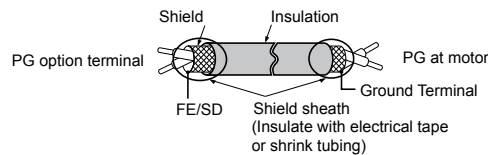
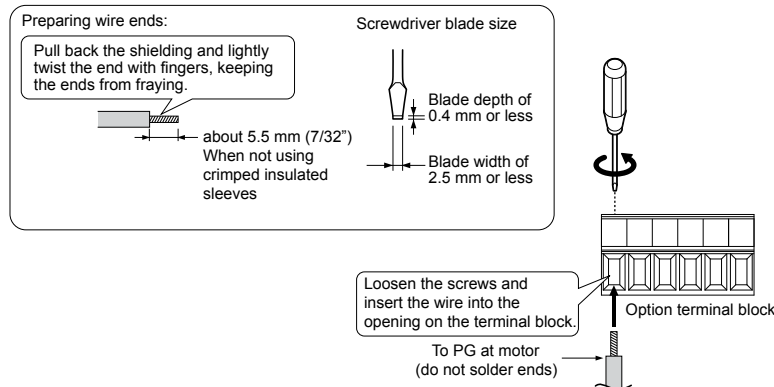

Figure 7.5 Preparing Ends of Shielded Cable
Figure 7.6 Preparing and Connecting Cable Wiring
2. There are two screw holes on the drive for use as ground terminals (H). When connecting three options, two ground wires will need to share the same drive ground terminal.
4. Prepare and connect the wire ends as shown in Figure 7.5 and Figure 7.6. Refer to Wire Gauges and Tightening Torques of PG-X3 Option on page 230 or Refer to Wire Gauges and Tightening Torques of PG-X3 Option on page 230 to confirm that the proper tightening torque is applied to each terminal. Take particular precaution to ensure that each wire is properly connected and that wire insulation is not accidentally pinched into electrical terminals.